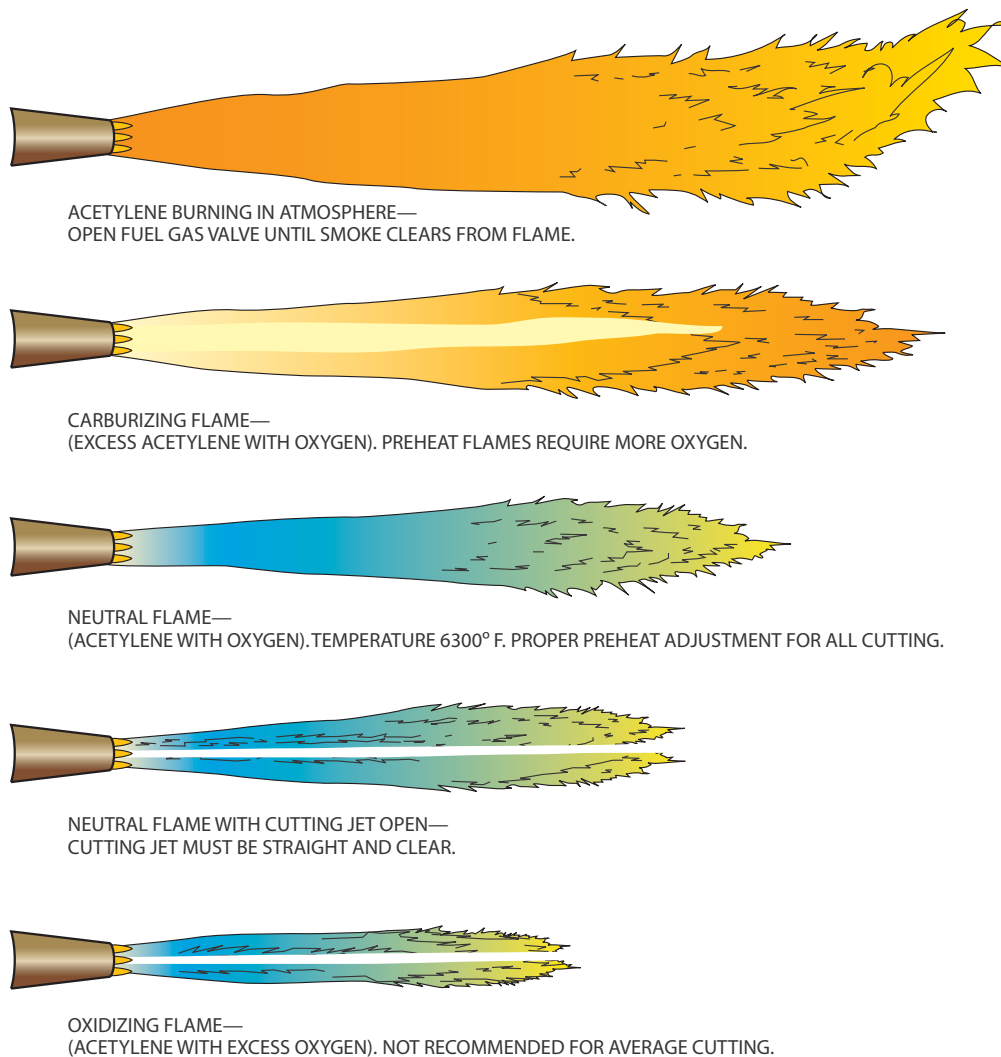

FIGURE 21-18 Oxyacetylene flame adjustments for the cutting torch.
5. With the acetylene flame burning smoke-free, slowly open the oxygen valve and by using only the oxygen valve adjust the flame to a neutral setting, Figure 21-18.